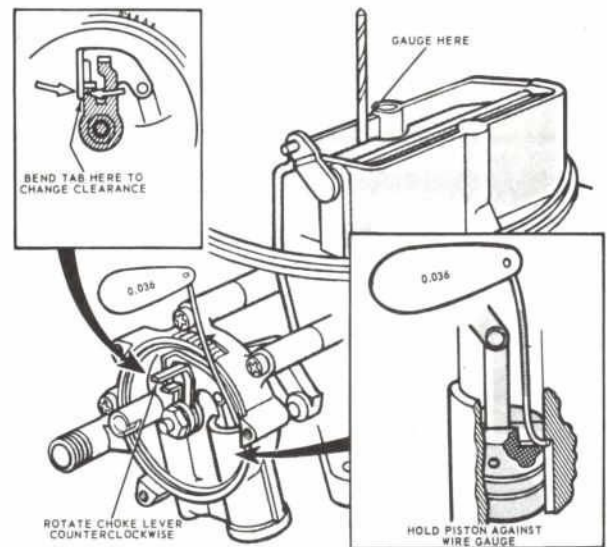

Figure 3—Cobra Jet Choke Plate Pulldown Adjustment
3. With the choke plate in the closed position, measure the distance between the flat of the fast idle cam and the choke housing mounting post (Fig. 3). If the setting is not to specification, straighten or bend the choke rod to obtain the specified clearance.